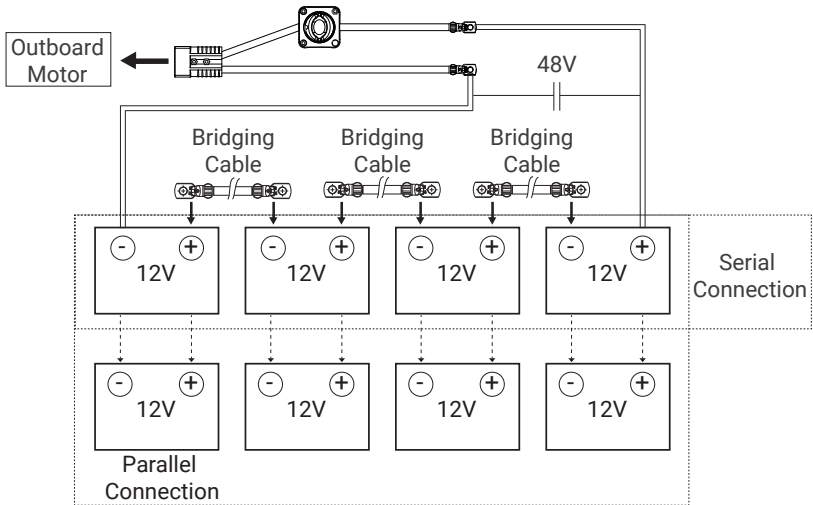

Figure 4-3
When connecting four 12V batteries in series to make a 48V battery set to supply power for NAVY Evo, use bridging cables to connect batteries in series (Figure 4-3). Make sure to connect the main switch cable to battery positive terminal and the other cable to battery negative terminal.
-  Never reverse the polarity. Please pay more attention when connecting batteries in series and/or in parallel configuration. Always double check by referring to Figure 4-3.